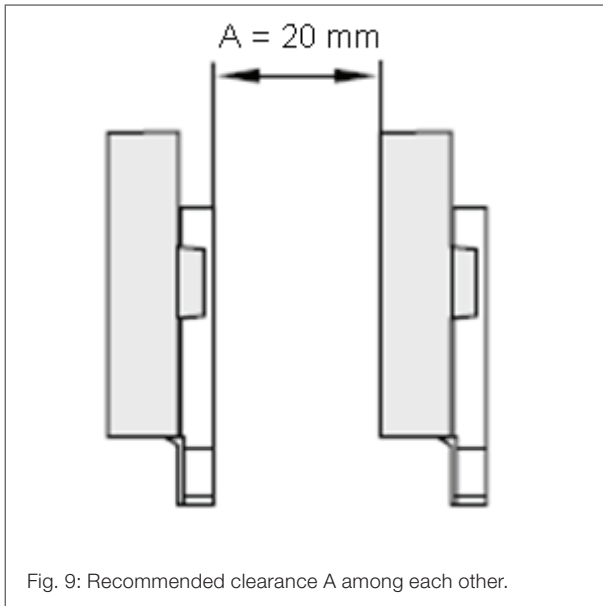

Fig. 9: Recommended clearance A among each other.
- For multiple sensor arrangements, it is recommended to place the sensors including their current feeds with a clearance (A) of at least 20mm to each other as shown in Fig. 9. A smaller distance may cause cross talk to adjacent sensors. The primary current feeds in the PCB may not to be routed underneath a sensor.